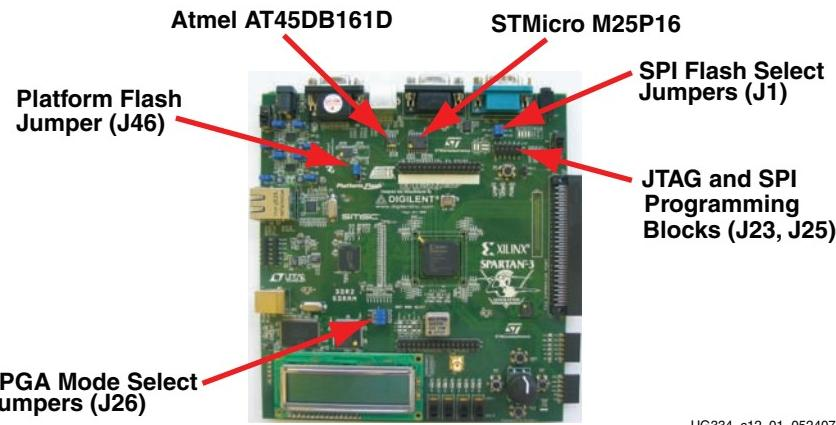
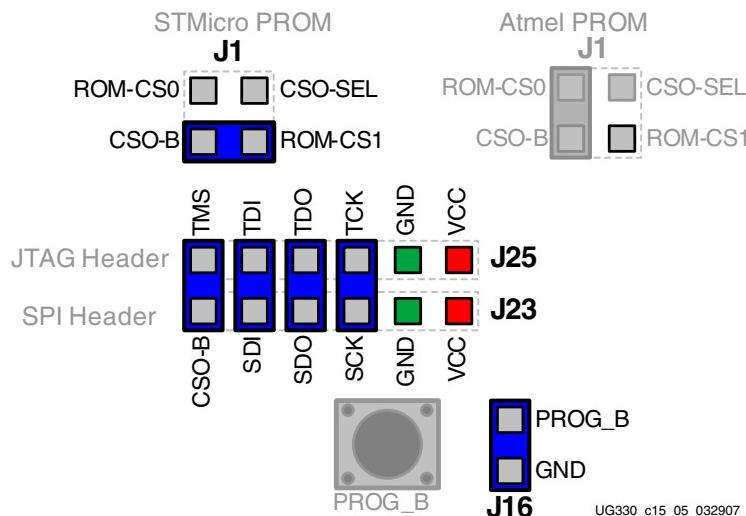

Figure 12-1: SPI Serial Flash PROMs and Associated Jumpers
Figure 12-4: Jumper Settings for Direct SPI Flash Programming
The Spartan-3A/3AN Starter Kit board includes two different styles of SPI serial Flash, as shown in Figure 12-1. Only one style is available to configure the FPGA. After configuration, however, the FPGA application has full access to both PROMs for data storage or Flash update purposes.
The J1 jumper block, shown in Figure 12-1, defines which SPI Flash PROM is connected to the FPGA for Master SPI mode configuration and which is optionally available via a separate, second SPI slave select signal.
3. Locate the J1, J23, and J25 jumpers in the upper right corner of the board, using Figure 12-1 as a guide. Figure 12-4 also provides a reference diagram.
4. Insert a jumper in jumper block J1, as shown in Figure 12-4. The figure shows the setting to program the STMicro M25P16 PROM. Alternatively, set the jumper to program the Atmel AT45DB161D DataFlash PROM.
5. Insert four jumpers between jumper blocks J25 and J23, as shown in Figure 12-4. These jumpers connect the embedded USB JTAG programmer on the J25 jumper pins to the SPI PROM via the J23 jumper pins.
6. Set the FPGA mode select pins for Master SPI mode using jumper J26, as shown in Table 12-4. The location of the J26 jumper appears in Figure 12-1.
7. Disable the Platform Flash PROM by removing jumper J46, shown in Figure 12-1 and Table 12-4.
8. For direct programming, the FPGA's PROG_B pin must be held Low. Insert a jumper in jumper J16, as shown in Figure 12-4. This holds all the FPGA's I/O in three-state to allow the JTAG programmer full access to the SPI PROM pins.
2. Insert a jumper in jumper block J1, as shown in Figure 12-4. The figure shows the setting to program the STMicro M25P16 PROM. Alternatively, set the jumper to program the Atmel AT45DB161D DataFlash PROM.